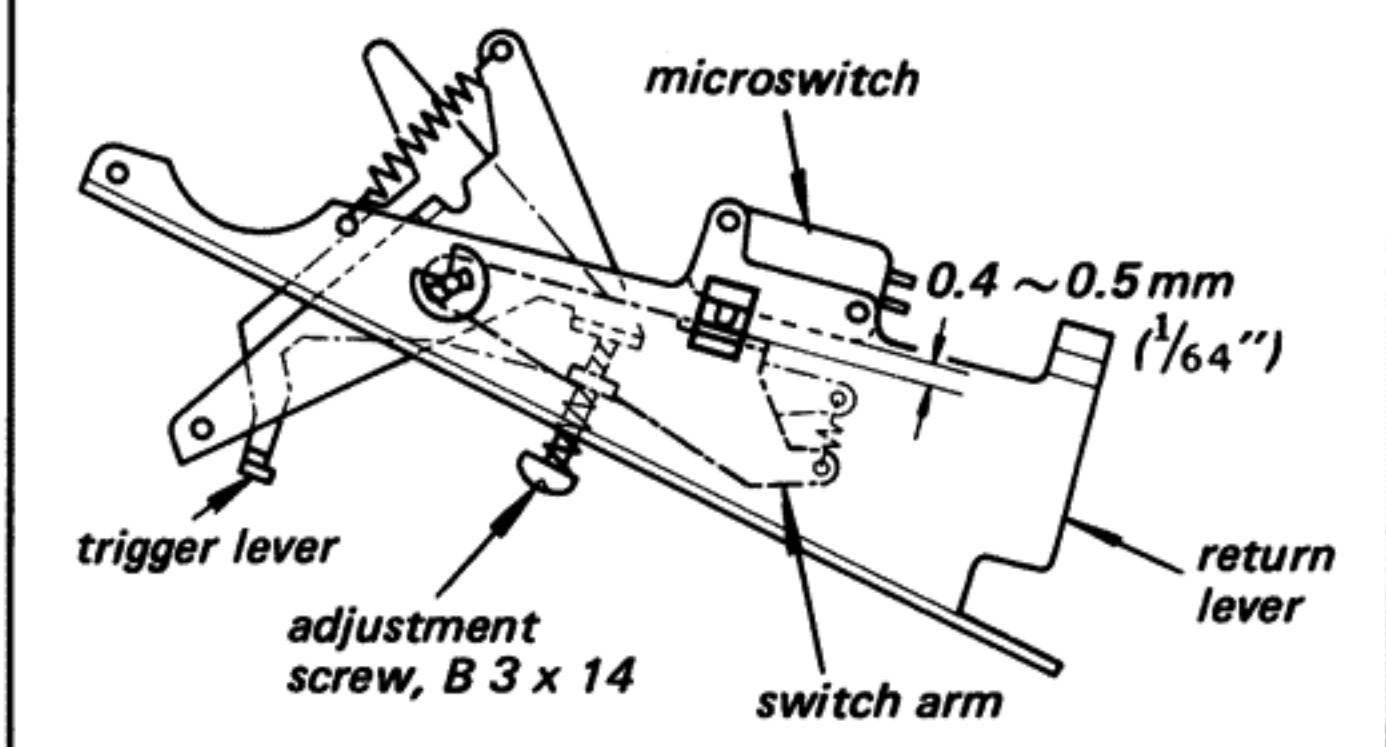

Fig. 3-14. Microswitch adjustment (1)
- With the trip pawl (A) not engaging with the turntable shaft, adjust by turning the adjustment screw so that the clearance between the switch arm and the microswitch is $0.4 \sim 0.5$ mm ($\frac{1}{64}$ ") as shown in Fig. 3-14.